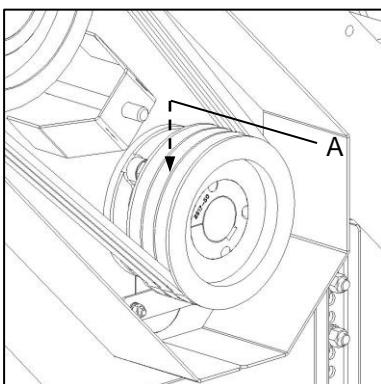
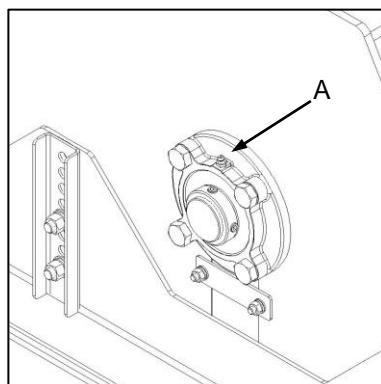
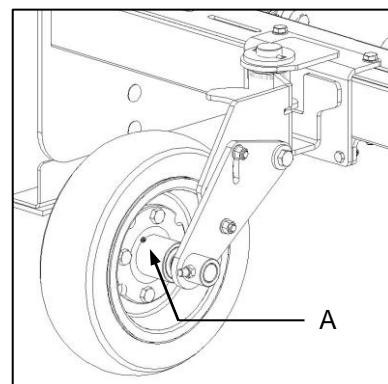

Fig. 1
Fig. 2
Fig. 3
- ✓ Lubricate rotating and sliding components. This includes rotor bearings (Fig. 1-A / Fig. 2-A) and wheel bearings (Fig. 3-A).
- ✓ Ghries draaiende en skuiwende komponente. Dit sluit rotorkoeëllaers (Fig. 1-A / Fig. 2-A) en wielkoeëllaers in (Fig. 3-A).